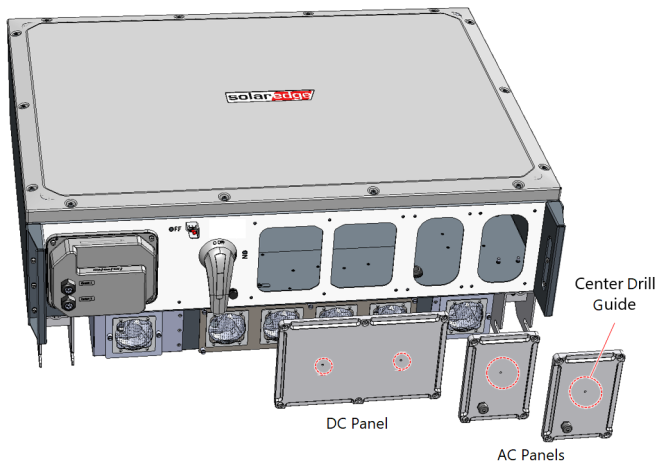

Figure 24: AC and DC panels with center drill guides at the bottom of the inverter
2. Locate the center drill guides for conduits on the DC and AC panels. Drill up to 3" entry hole(s) on the DC panel and one 2.5" on the AC panels (see *Figure 24* ).